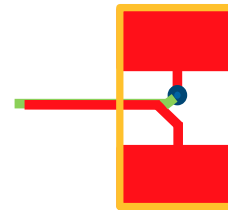

FIGURE 78. RECOMMENDED LAYOUT PATTERN FOR CURRENT SENSE TRACES REGULATOR
13. The current sensing traces must be laid out very carefully because they carry tiny signals with only tens of mV. For the current sensing traces close to the power sense resistor (R_{SENx}), the layout pattern shown in Figure 78 is recommended. Assuming the R_{SENx} is placed in the top layer (red), route one current sense connection from the middle of one R_{SENx} pad in the top layer under the resistor (red trace). For the other current sensing trace, from the middle of the other pad on R_{SENx} in top layer, after a short distance, via down to the second layer and route this trace right under the top layer current sense trace.